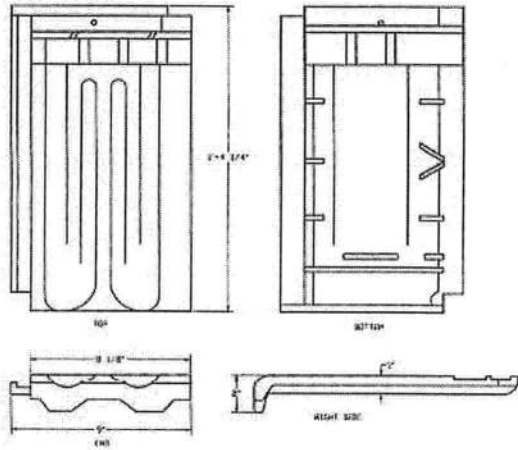

FIGURE 5—MEDIUM PROFILE TILE
**3.2.4 Medium Profile Tiles:** The Medium Profile Tiles have locks on all four edges reflecting French architectural features. See Table 1 for dimensions and installed weight of the tiles. One nail hole is provided at the top of each tile. See Figure 5 for additional details. The tiles are installed with a 3-inch (76 mm) headlap on roofs with a minimum slope of 3:12 (25%).